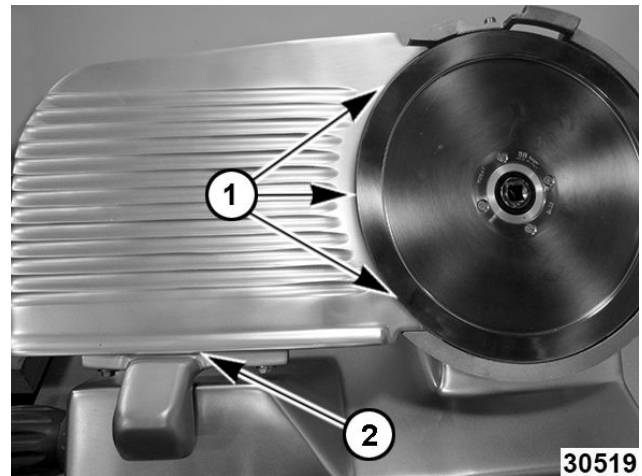

Fig. 36
- B. Verify the three contact points (1, Fig. 36) are equally level at the gauge plate.
- C. Shim the gauge plate support (2, Fig. 36) as necessary to achieve this angle.